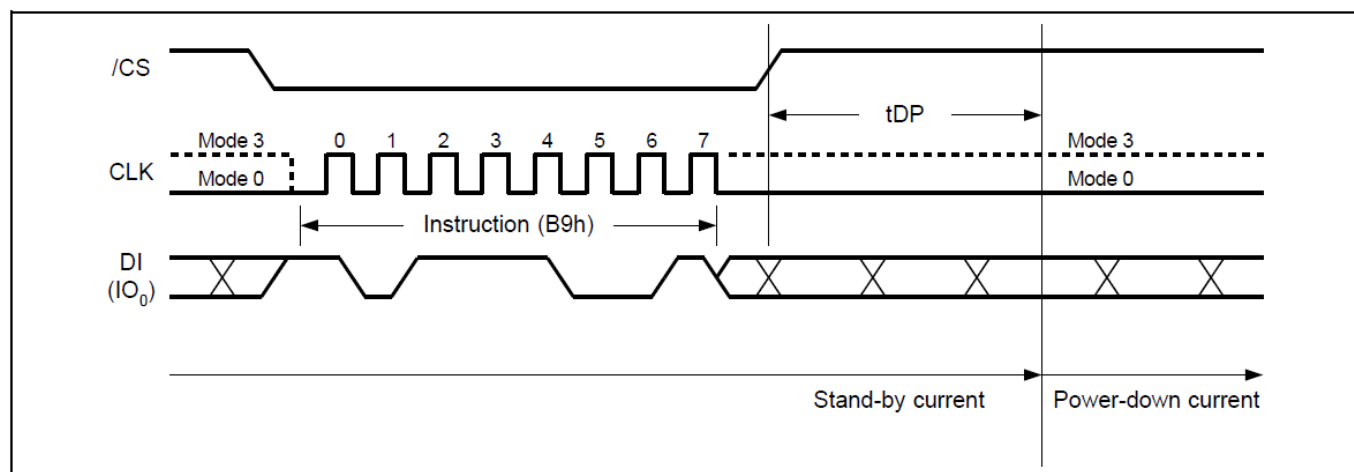

Figure20. Deep Power-Down Sequence Diagram
The Deep Power-Down Mode automatically stops at Power-Down, and the device always in the Standby Mode after Power- Up. The Deep Power-Down command sequence: CS# goes low → sending Deep Power-Down command → CS# goes high. The command sequence is shown in Figure20. CS# must be driven high after the eighth bit of the command code has been latched in; otherwise the Deep Power-Down (DP) command is not executed. As soon as CS# is driven high, it requires a delay of t_{DP} before the supply current is reduced to IDPD and the Deep Power-Down Mode is entered. Any Deep Power- Down (DP) command, while an Erase, Program or Write cycle is in progress, is rejected without having any effects on the cycle that is in progress.